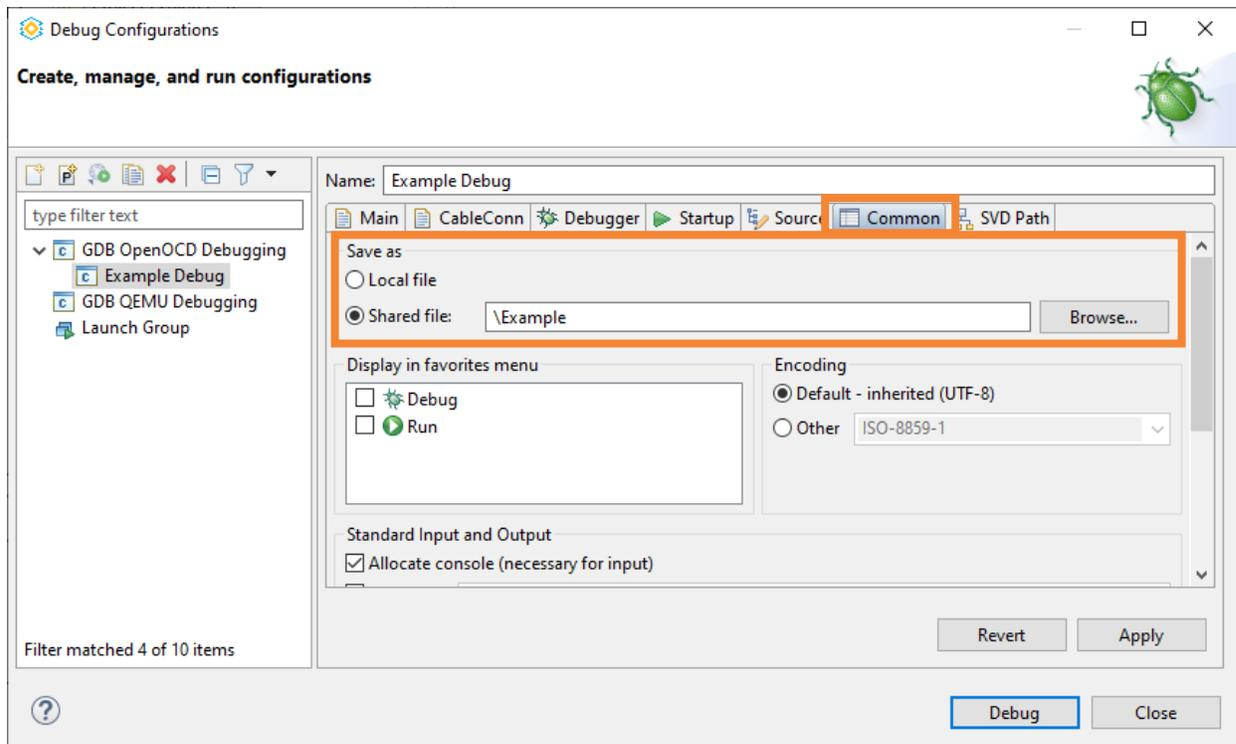

Figure 3.38. Common Tab of Debug Configurations
- (Optional) Select the **Common** tab (Figure 3.38). The **Save as > Local file** option is selected by default. This causes the debug launch configuration to be saved into the workspace.
4. Click the **Debug** button (Figure 3.38).